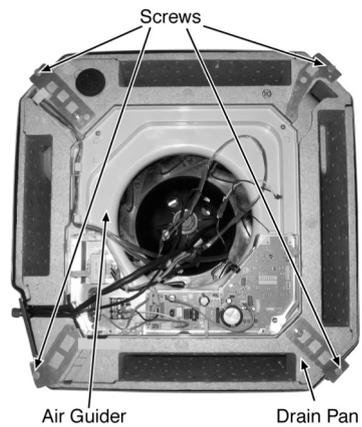

Fig. 6
- 6 Remove the Air Guider and Drain Pan completely by removing the screws (Fig. 6).